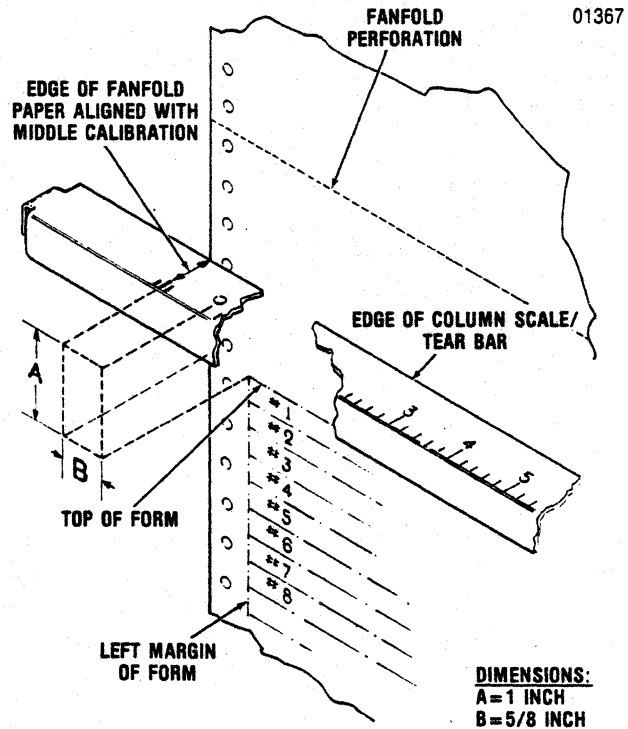

Figure 3-3 Margin Adjustment
14. Note how the left edge of your form aligns with the three fanfold calibration marks which are shown in Figure 3-3.
15. If the edge of the form lines up with the middle calibration, the left margin of the printed form will be approximately 5/8" from the edge of the paper (refer to dimension B, Fig. 3-3). Alignment with either of the outside calibrations offsets the 5/8" margin by 1/10".
Figure 3-3 shows the printer loaded with paper just prior to setting TOF. Note that several consecutively numbered lines are shown outlined on the paper. These lines show where the first few printable lines will be positioned on the paper if the **SET TOF** switch is pressed with paper loaded as shown. Particularly note that the top of form (the top edge of the first printable line) will be set 1" **below** the edge of the column scale/tear bar (dimension A).
Pressing **SET TOF** with paper positioned as shown in Figure 3-3 sets top of form several inches below the paper perforation. To set TOF just below the perf, move paper until the perf is almost 1" below the tear bar, and then press **SET TOF**.